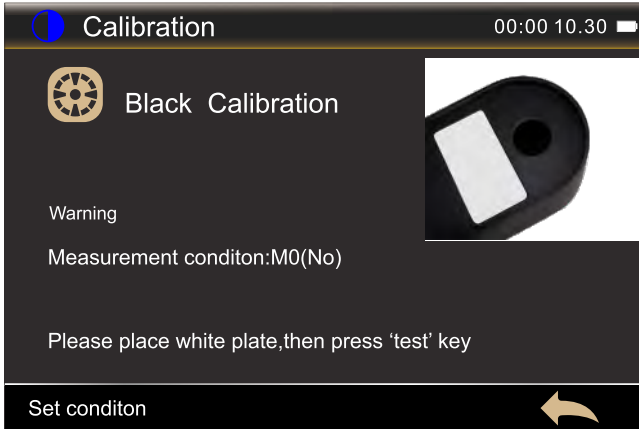

Figure 16 Black calibration
3. After the white calibration is completed, it will automatically enter the black calibration interface, as shown in Figure 16.